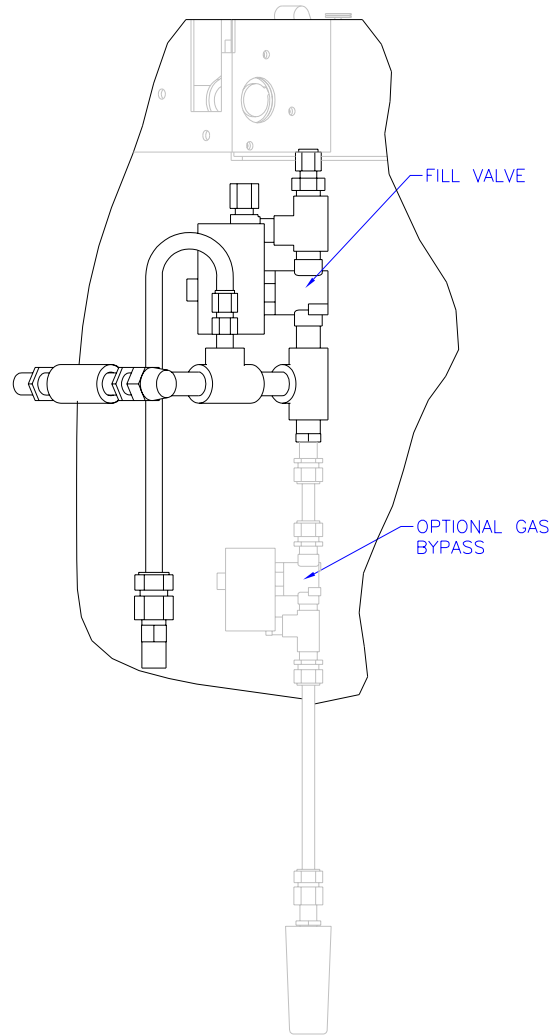

**Figure 7, PURGE VALVE DETAIL XLC 500/1200 FIRST GENERATION (ROUNDED CORNER CABINET)**
22. Disconnect the existing harness leads from the purge valve. Reference Figure 7.